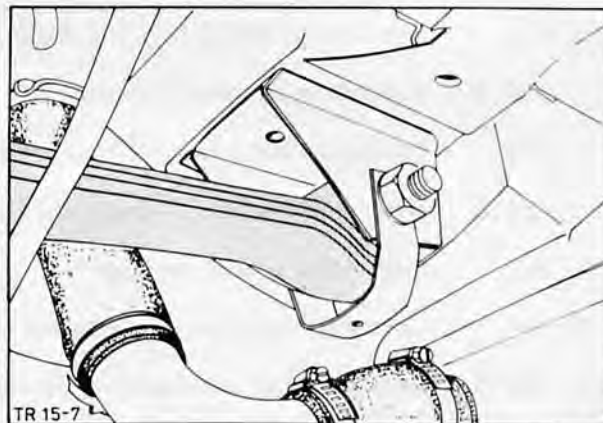

Fig. 12. Detach rear springs from body
7. Detach rear springs from body at front and rear mountings on left and right hand sides (4 bolts), Fig. 12.